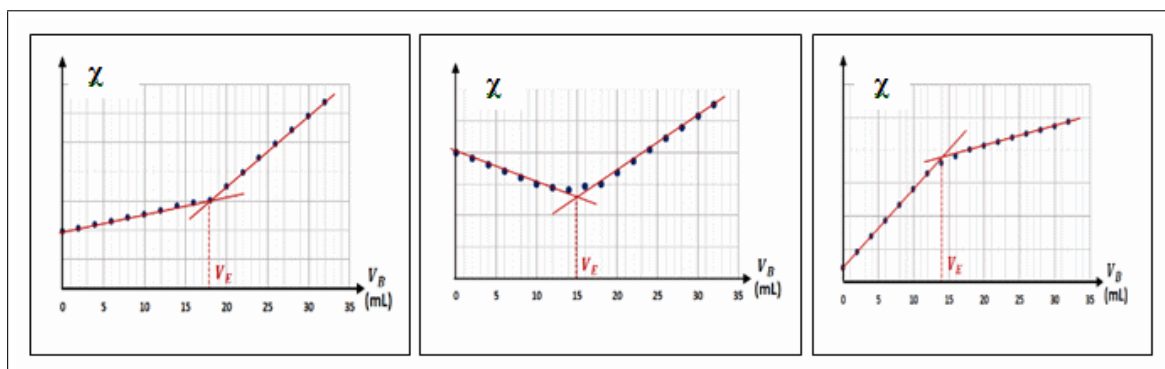
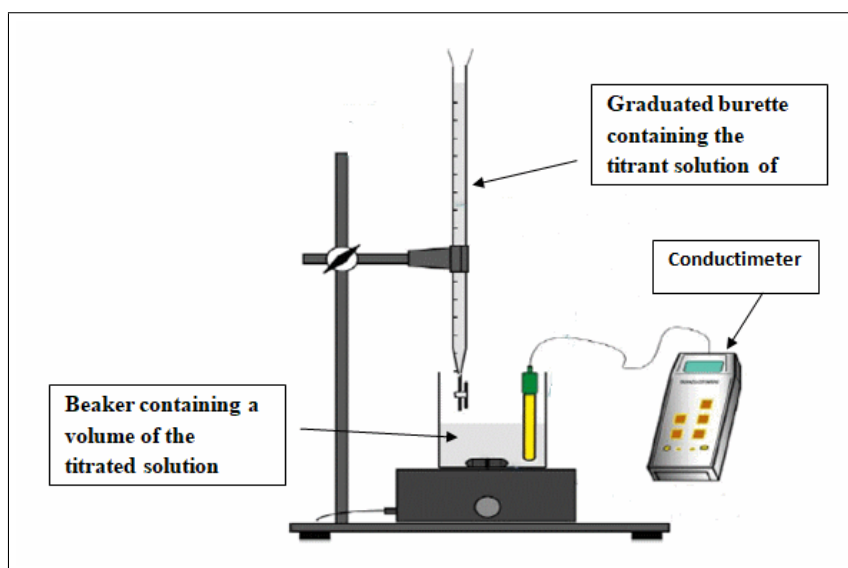

Figure 2.9: Examples (Conductivity as a function of volumes of the titrant solution).
Figure 2.10: Apparatus for a conductimetric titration
To find the molar concentration of a solution (A) of unknown concentration m_{rA} using titration via conductivity measurement (Figure 2.10), rely on the setup illustrated below and follow the following steps:
- * Place a known volume (A) of the solution to be titrated (unknown molar concentration m_{rA}) in a beaker.
- * Using a burette, add varying volumes of the titrant solution (B) (known molar concentration m_{rB}), recording the conductivity (χ) for each volume(V) added.
- * Plot the graph: Conductivity (χ) as a function of the added volume (V): $\chi = f(V)$ (Figure 2.9).